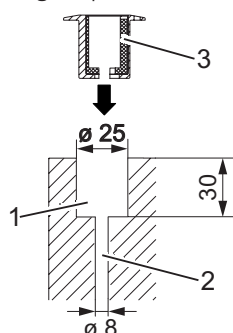

Fig. 22: Borehole for the eccentric bushing
9. Drill the hole (Fig. 22/1) with \varnothing 25 mm at least 30 mm deep.
10. Drill the hole (Fig. 22/2) with \varnothing 8 mm for the fastening of the eccentric bushing with wall plugs or similar.
11. Insert the eccentric bushing (Fig. 22/3) and screw it in place using suitable mounting material.